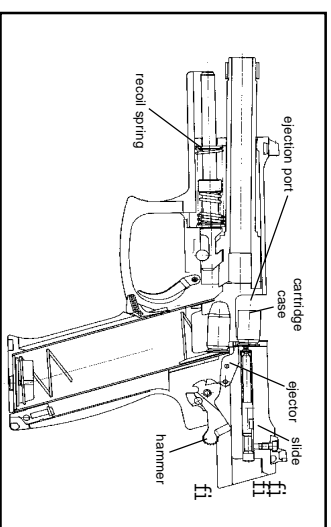

Figure 7 Ejection
D. **Ejection** - (See Figure 7) - The rim of the cartridge case strikes the stationary ejector. The empty case is ejected from the open ejection port.
E. **Cocking** - (See Figure 7) - As the slide continues rearward the recoil impulse is dampened by the buffer spring. The recoil spring is compressed and the hammer recocks.